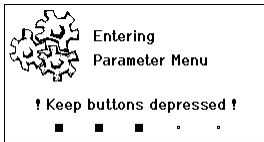

Fig. 11
1. Press and hold down keys **4** and **1** or **4** and **2** simultaneously. While the device is changing over to the parameter menu, the display shows the following message text (see also Fig. 11): "Changing over to parameter menu" "Hold down keys".